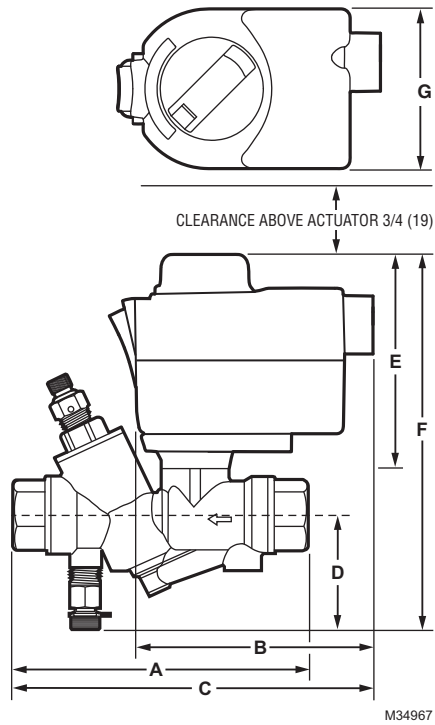

Fig. 1. Valve Dimensions with MVN Actuator; see Table 5.
- Dimensions:** See Fig. 1 and Table 5.